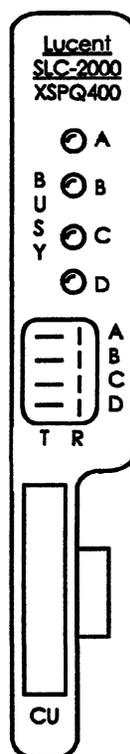

Figure 1. XSPQ400B Faceplate Diagram
Figure 1 shows the faceplate diagram for the XSPQ400 POTS CU. Table 1 shows the XSPQ400 CU's on-hook transmission compatibility. Table 2 lists the salient XSPQ400 CU's electrical and transmission specifications. Table 3 lists the environmental specifications and Table 4 lists the power drain of the XSPQ400 CU. Table 5 lists the edge connections for the XSPQ400 (RT) POTS CU.